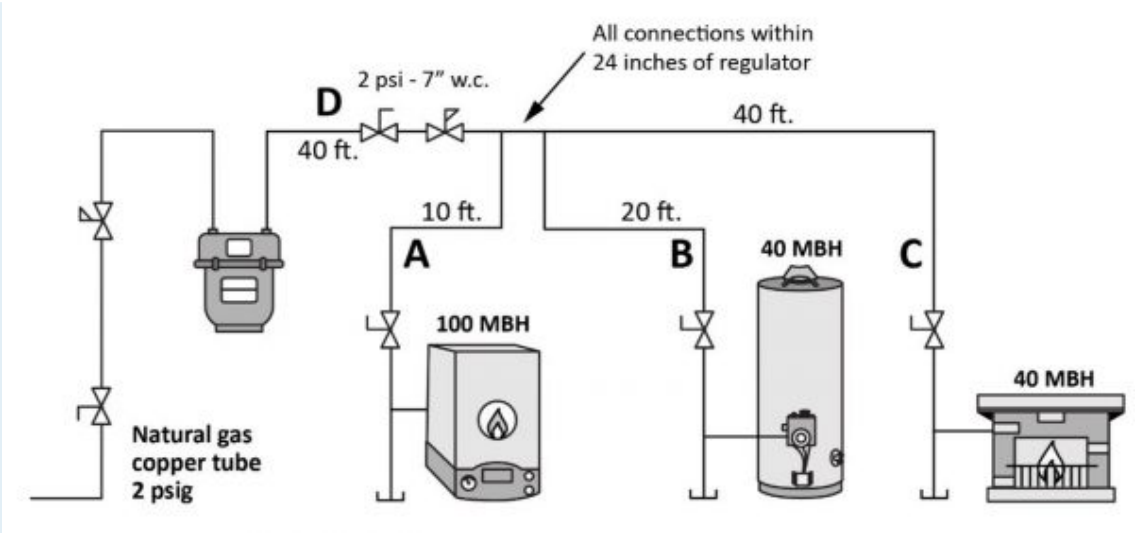

Figure 6
3. Size the drawing in Figure 6 and show all calculations.
- Figure 6 by Camosun College is licensed under a CC BY 4.0 licence (<https://creativecommons.org/licenses/by/4.0/>).